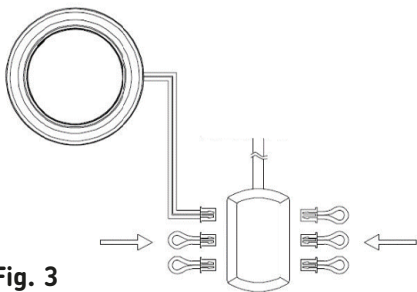

Fig. 3
- Connect the lamp to the 6-way hub (see Fig. 3)